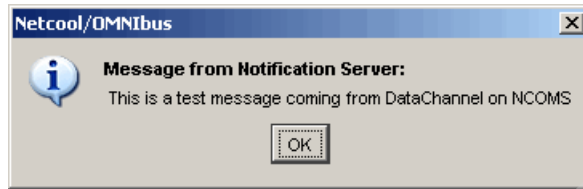

Figure 4-64 Test message
12. Insert a test message and click **OK** to send it. You should get a notification event, as shown in Figure 4-64 on page 171.